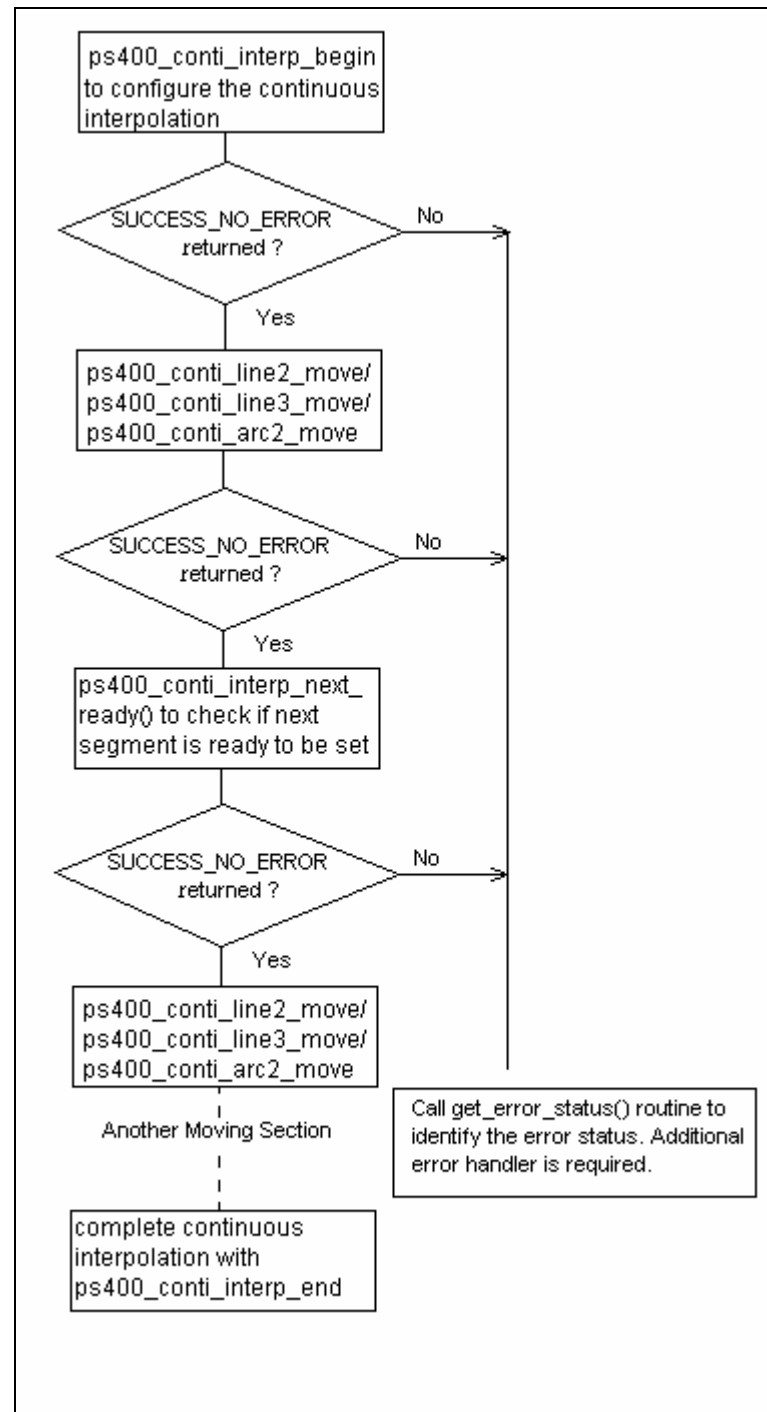

Figure 5 - typical programming following-chart of continuous-interpolation
***wContilInterpMoveMode***. The typical programming following-chart is described in Figure 5. Please refer to the 'Conti\_Interp' sample.